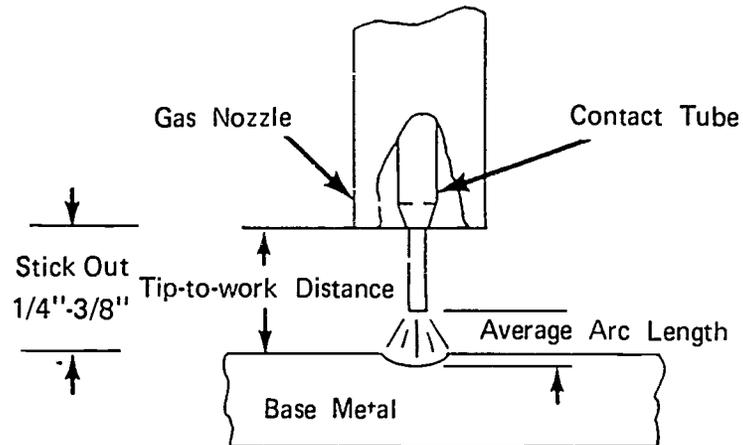

FIGURE 2
- D. Adjust gun to correct stick out (Figure 2)